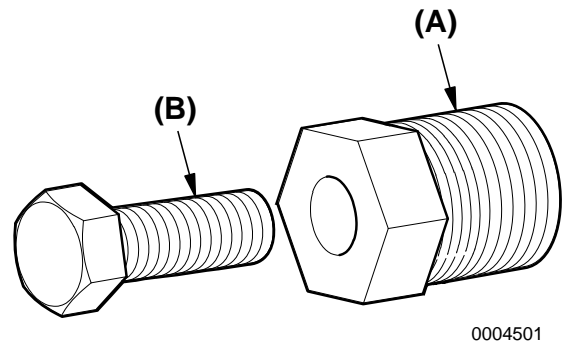

Figure 16
2. Install puller (**Figure 16, (A)**) in the impeller.
- Turn the jack screw (**Figure 16, (B)**) clockwise to remove the impeller from the pump body.